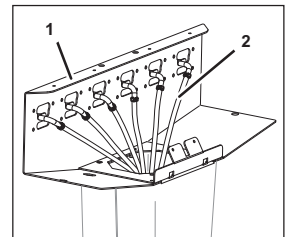

Fig. 40
- Remove the syrup tubes (Fig. 40/2) from the dispensing valve support (Fig. 40/1).
- Position the syrup tubes (Fig. 40/2) within the dispensing valve support (Fig. 40/1).